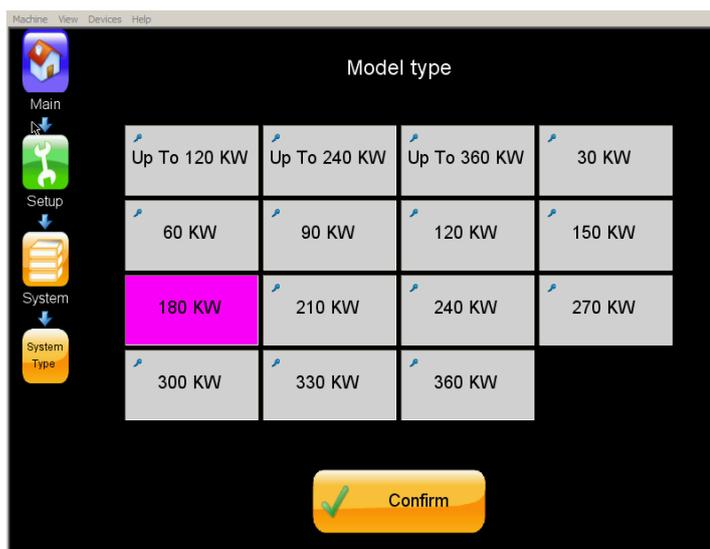
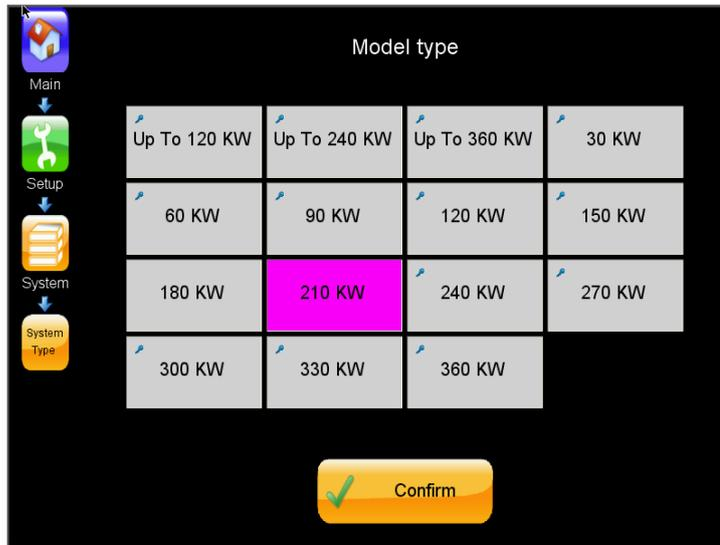

Figure 48: "Model Type" screen for a 180 kW system
Figure 49: .”Model Type” screen for a 210 kW system
2. The **Centric** controller must be informed that you are increasing the capacity of your system. On the LCD control panel, from the main menu navigate to "Setup > System > System type". Increase the maximum capacity of the system by 30 kW times the number of modules added. For example, if you added one module to a 180 kW system, you would choose 210 kW as the new system type (see Figure 48 and Figure 49).